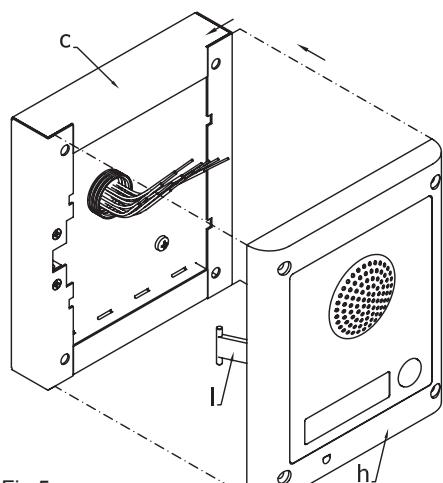
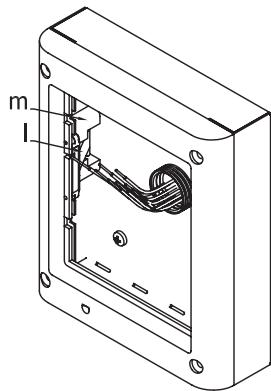

Fig.5
Fig.6
5. As shown in figure 5, hook the module support frame h (complete with modules) to surface box moving the frame as suggested from pointers. Ensure that the pivot (fig.5) goes inside the relevant housing as shown in figure 6.